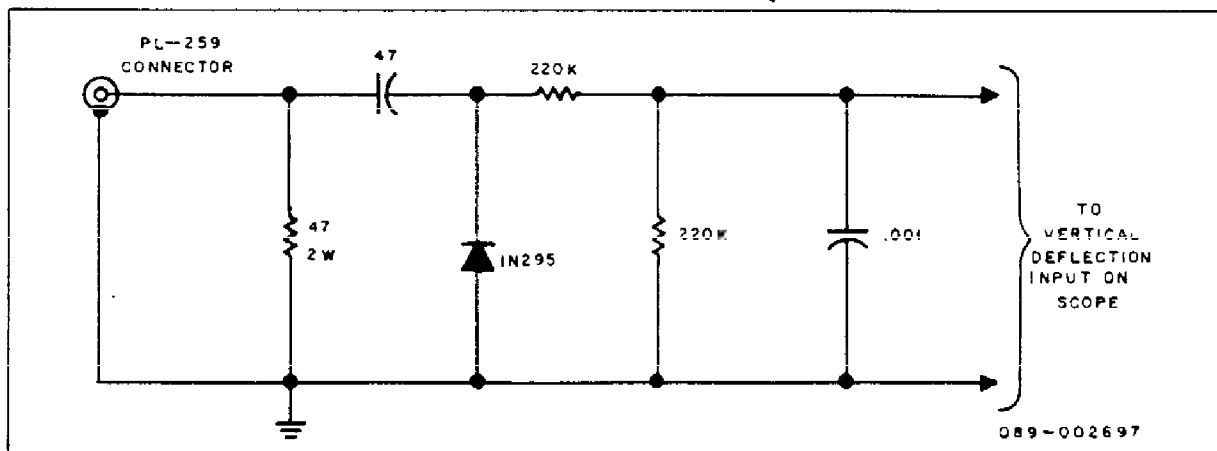

Figure 11. Diode Detector.
4. Connect the diode detector unit to the RECEIVER outlet to provide a termination for the transverter mixer output. See figure 11.